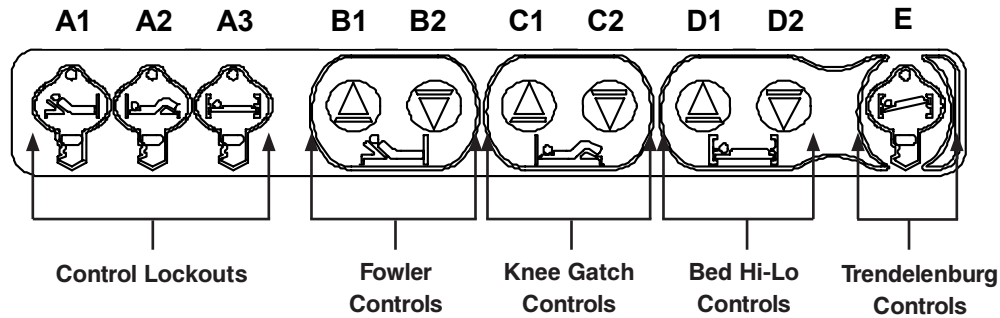

Figure 1
- The three control lockouts (A1 to A3) as shown in Figure 1 allow the selective lock out of controls available to the patient and the nurse staff through the optional siderail control panels or the optional pendant control. The state of the LED associated to each control indicates whether the control is available to the patient or is locked. A LED that is illuminated green (On) indicates that the control is available to the patient. If the LED is not illuminated (Off), then the control is locked.